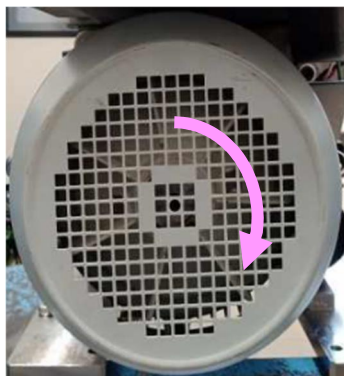

Figure 19: Direction of rotation of motor
7. Check whether the direction of rotation of the motor is correct. (Refer to "**Figure 19: Direction of rotation of motor.**")